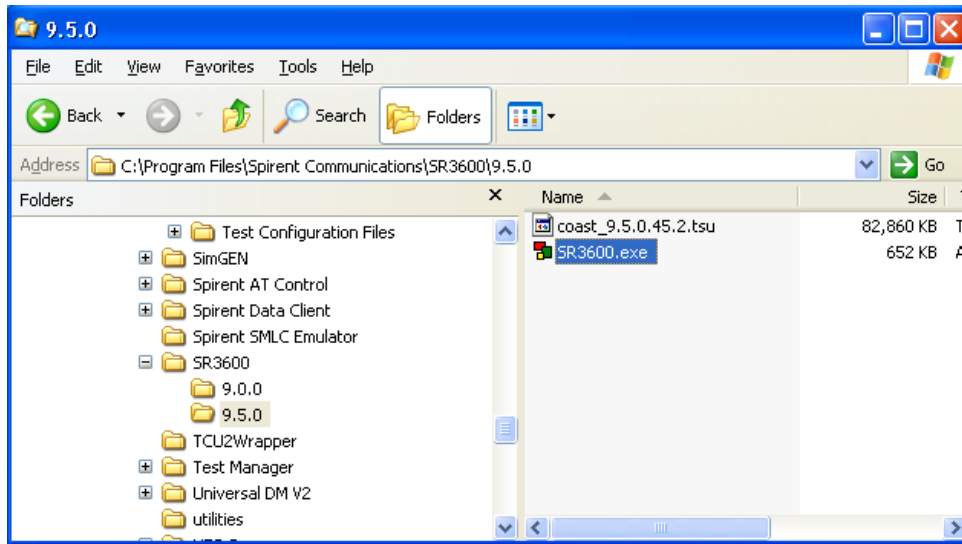

Figure 2-26: SR3600 Folder
1. From the Controller PC, navigate to **C:\Program Files\Spirent Communications\SR3600\9.x.x.x**, as shown in Figure 2-26.